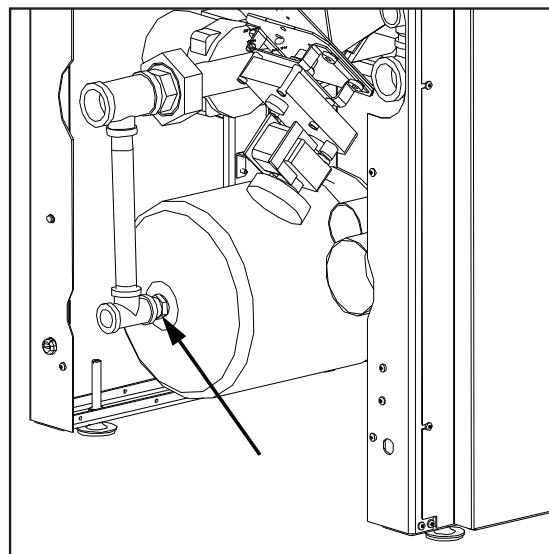

Figure 12
3. Apply thread sealant to the fitting point out in Figure 12 then tighten the expansion tank onto the fitting.